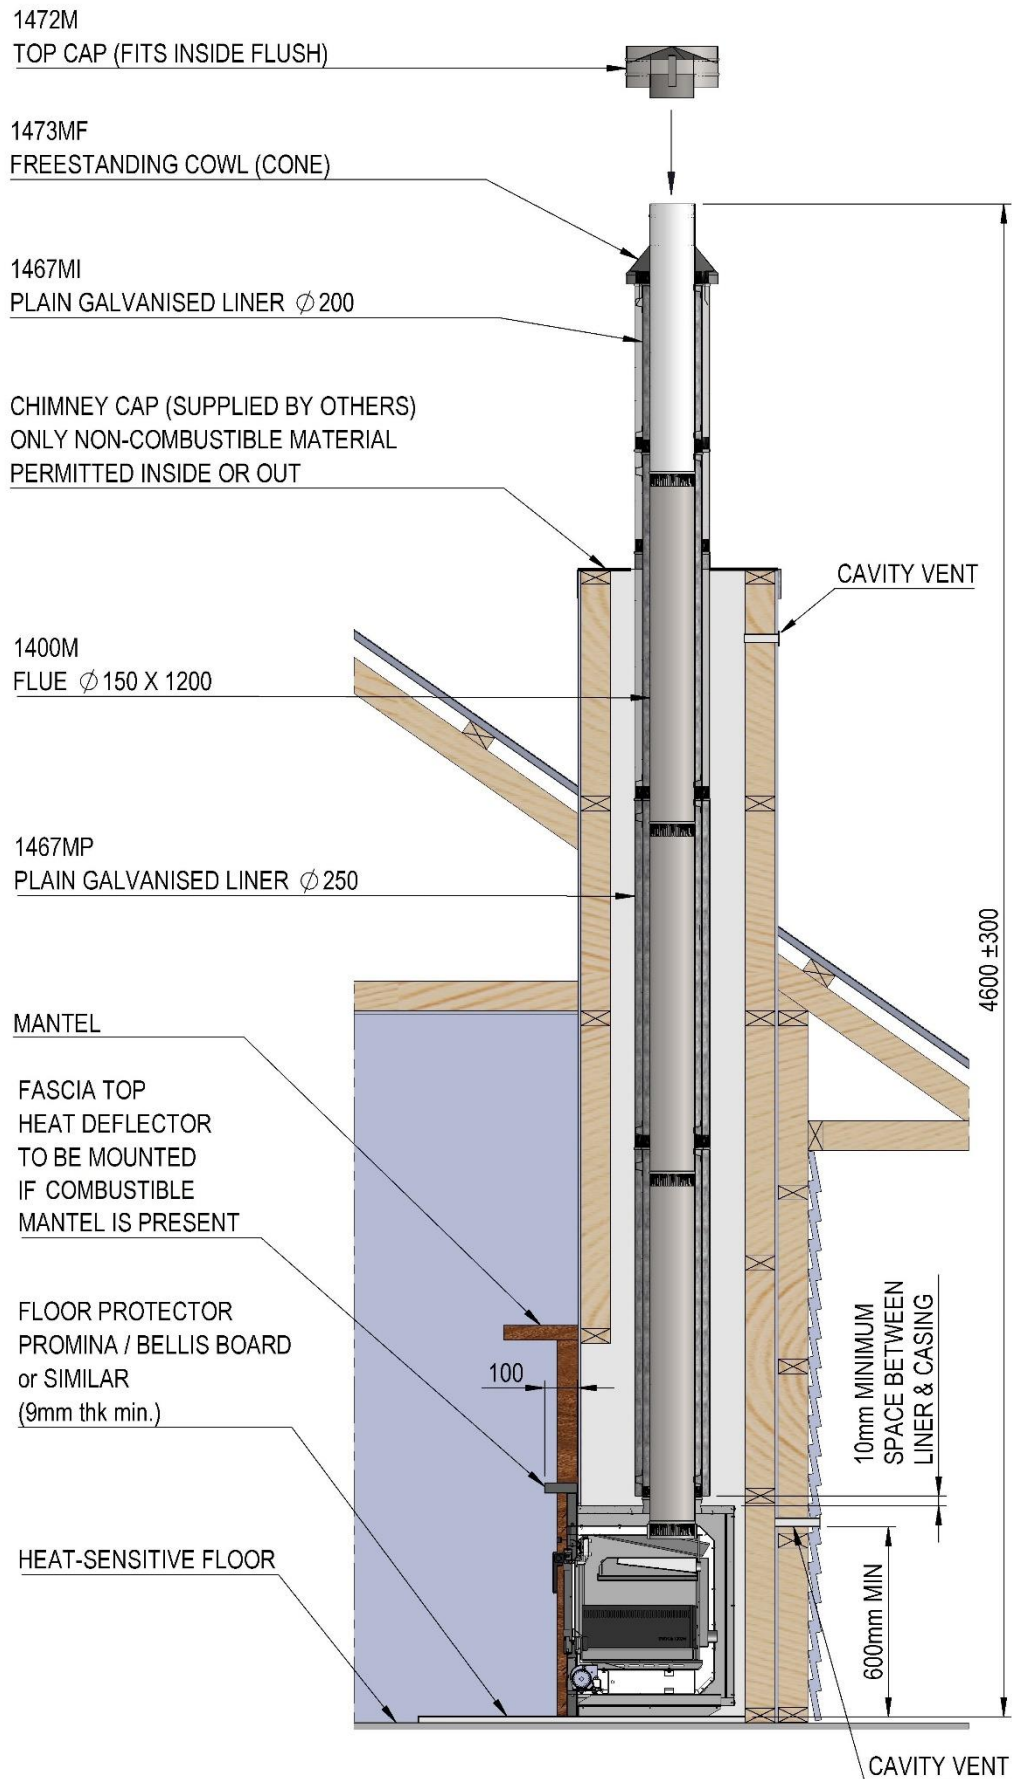

Fig. 3
- For standard flue installations (Fig. 3); if any support is required under the chimney cap, it should be constructed of non-combustible materials only.
K. Typical Built-in (ZC) Flue Installation (Fig. 3)